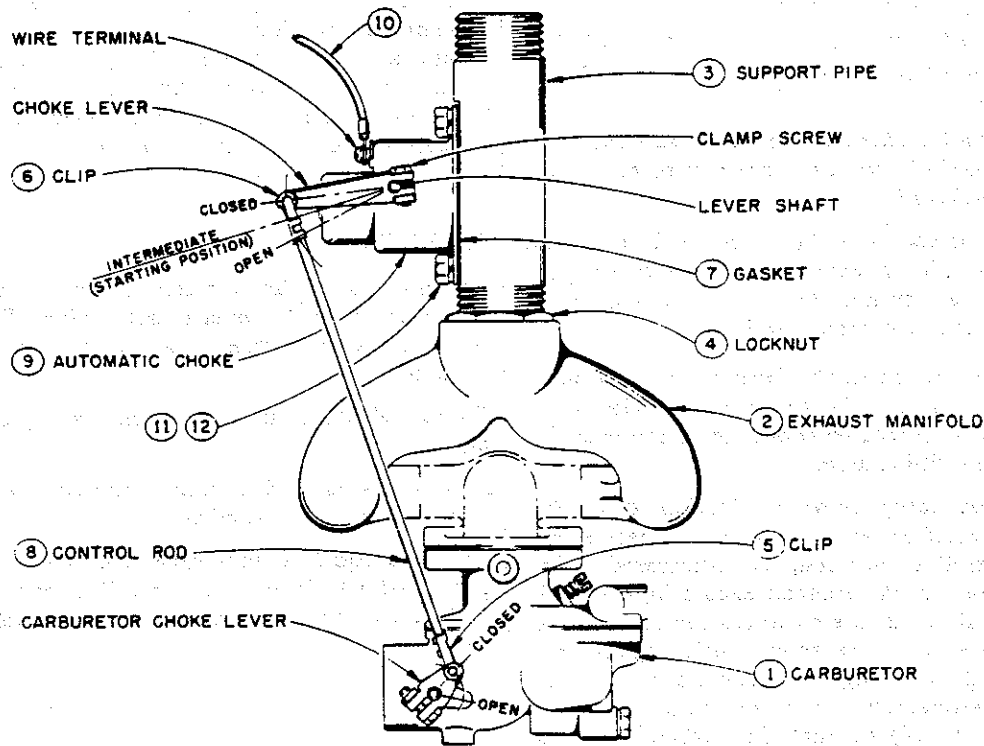

Fig. 1
1. Screw **locknut** (4) on **support pipe** (3) and turn pipe tight into **exhaust manifold** (2), until mounting surface for automatic choke is in position shown in Fig. 1. Secure in place with **locknut** (4).
2. Mount **automatic choke** (9) to machined surface on **support pipe** (3) with **gasket** (7), **screws** (12) and **lockwashers** (11).
3. Assemble end of **control rod** (8) to the inside of **carburetor choke lever** and secure in place with **retaining clip** (5).
- c. Pull up on **control rod** (8) Fig. 1, so that the **carburetor choke lever** is in the upper, or **closed position**. Retain rod in this position.
- d. Rotate **automatic choke lever** until hole at end of lever lines up with bent end of control rod. (Rod pulled up in closed choke position). Mount control rod to lever by means of **retaining clip** (6).